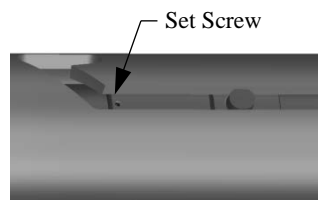

Fig. 6
L-2.17) Screw set screws (31) into J-pin bottom sub (23). Move J-body (20) as needed to access threaded holes (Fig. 6).